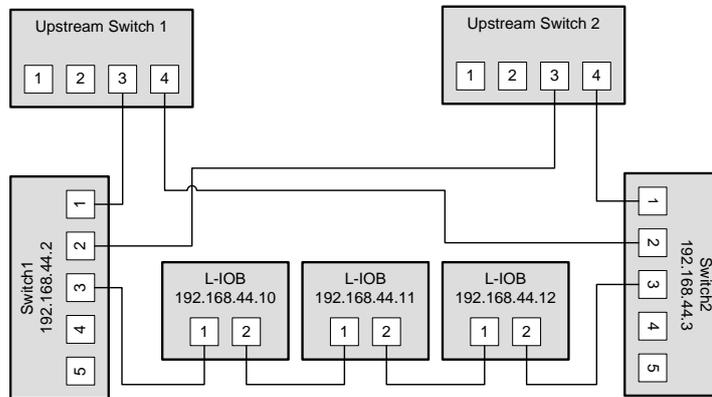

Figure 79: Ring Ethernet topology
**Ring topology:** In this setup, the devices are connected in a chain and each end of the chain is connected to a different upstream switch. This topology requires RSTP. If a single device is powered off, the RSTP will automatically recalculate the spanning tree so that all other devices in the chain are reachable. Only if two devices are power-off at the same time, the devices between them will not have an Ethernet connection. In Figure 79, the L-IOB devices with IP addresses from 192.168.44.10 to 192.168.44.12 are connected in this way. The recommended maximum number of daisy-chained devices is 20.